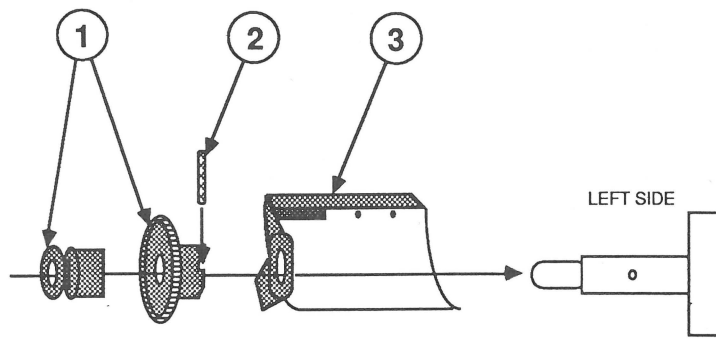

FIGURE 16
21. Remove the bushing and gear (Figure 16, #1) from the left side of the platen. Using a 1/16-inch or 2-mm pin punch, carefully tap the split-sleeve pin (Figure 16, #2) all the way through the platen shaft and pull it out. (This pin will be reused, so do not damage it.)
22. Remove the old mechanical paper-empty sensor frame (Figure 16, #3).
23. Replace the split sleeve pin in the platen shaft (Figure 16, #2) and reinstall the gear and bushing (Figure 16, #1).